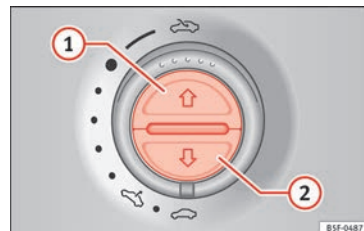

Fig. 137 On the interior roof lining: switches for the sun blind.
Opening completely (automatic function)	Press button »» Fig. 137 ① briefly.
- The switch should be in the “closed position” » » 📖 page 13 ①.
- *Panoramic sliding sunroof:* Within five seconds of triggering the anti-trap function, pull the control all the way back » » 📖 page 13 (arrow ⑤) until the panoramic sliding sunroof closes fully.
- *Sun blind:* Within five seconds of triggering the anti-trap function, press button » » Fig. 137 ② until the sun blind closes fully.